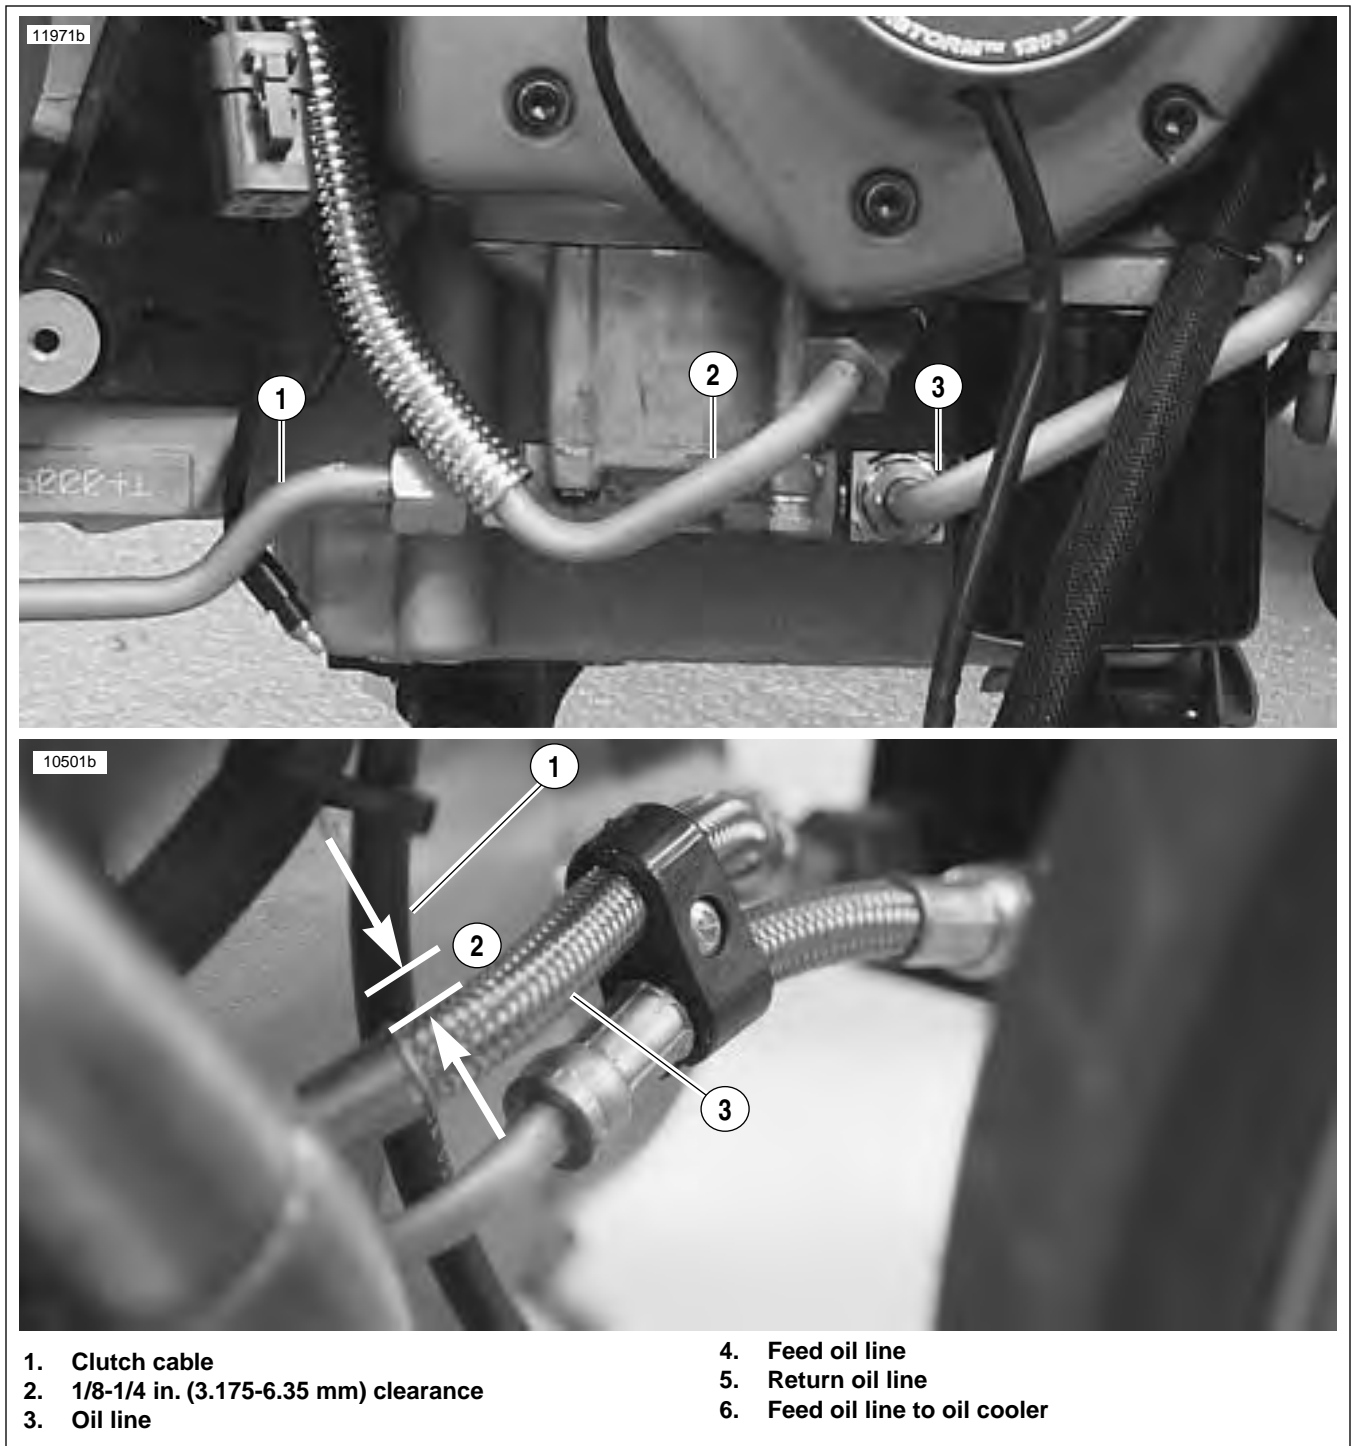

Figure 3-48. Oil Cooler Feed Oil Line Orientation (Approximately 2 O'Clock) and Oil Line Clearances
28. See Figure 3-48. Loosely install the feed oil line that runs from the lower front oil pump fitting to the rear fitting on the oil cooler.
See Figure 3-48. It is important to maintain an orientation of approximately 2 o'clock with the rigid part of the feed oil line running to the oil cooler. Also be aware of the 1/8-1/4 (3.175-6.35 mm) clearance specified between the feed oil line and the clutch cable at the front of the crankcase.